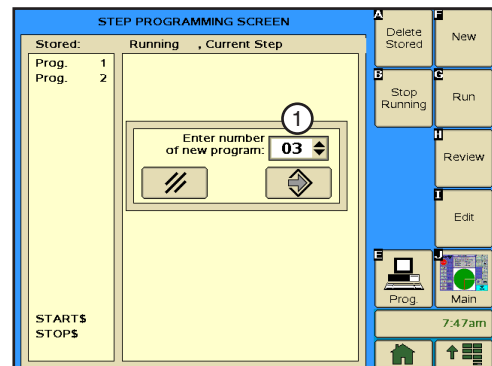

Figure 134-2 1. New Program Number Field
1. Push **Prog.** and **Step Prog.** to view the Step Program screen. Refer to Figure 134-2.